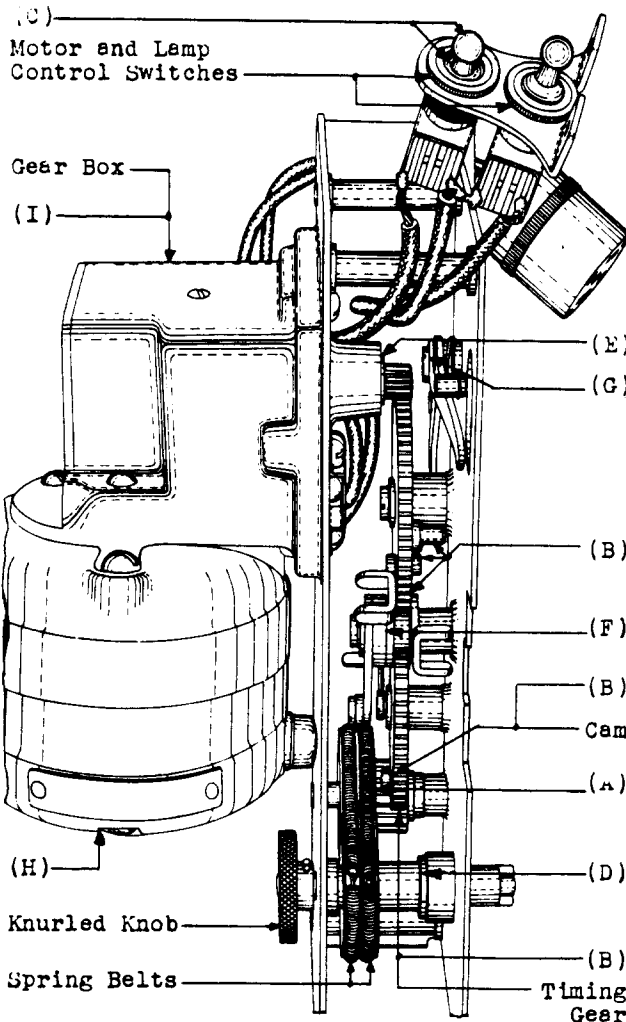

Fig. 3 - KS-7703 Camera - Motor Drive Unit
- (1) Spring Drive - Fig. 3 (A)
- (2) Timing Gears and Cams - Fig. 3 (B)
- (3) Motor and Lamp Control Switch Knobs and Pins - Fig. 3 (C)
- (4) Gear Box - Fig. 3 (I)
- (1) Take-Up Spindle Bearings - Fig. 3 (D)
- (2) Drive Shaft Bearings - Fig. 3 (E)
- (3) Motor Switch Lever Bearing - Fig. 3 (F)
- (4) Locking Pawl Bearing - Fig. 3 (G)
KS-7703 Camera: Rear Motor Bearing - Fig. 3 (H)